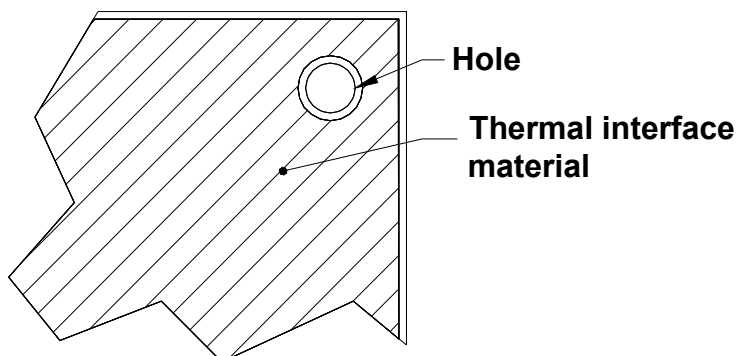

Figure 1 - Thermal Pad Design
- **Thermal interface material:** Due to the flatness irregularities of both the heatsink and power module baseplate, a thermal interface material must be used between the heatsink and the power module baseplate to minimize the thermal contact resistance. A conformal thermally conductive interface material or pad is required to fill the gaps. The pad should be between 0.005 to 0.008 inch thick and have a minimum thermal conductivity of 2 W/m-K. TII heatsinks come with 0.005 inch thick Berquist QPAD3 thermal interface material. The interface material should completely surround the mounting hole/slot (see Figure 1). Pad clearance hole diameter should be 1.02 mm (0.040 inch) larger than heatsink/cold plate mounting hole. This will prevent excessive flexing of the base plate when torquing in screws. Thermal grease is not recommended for the thermal interface material.